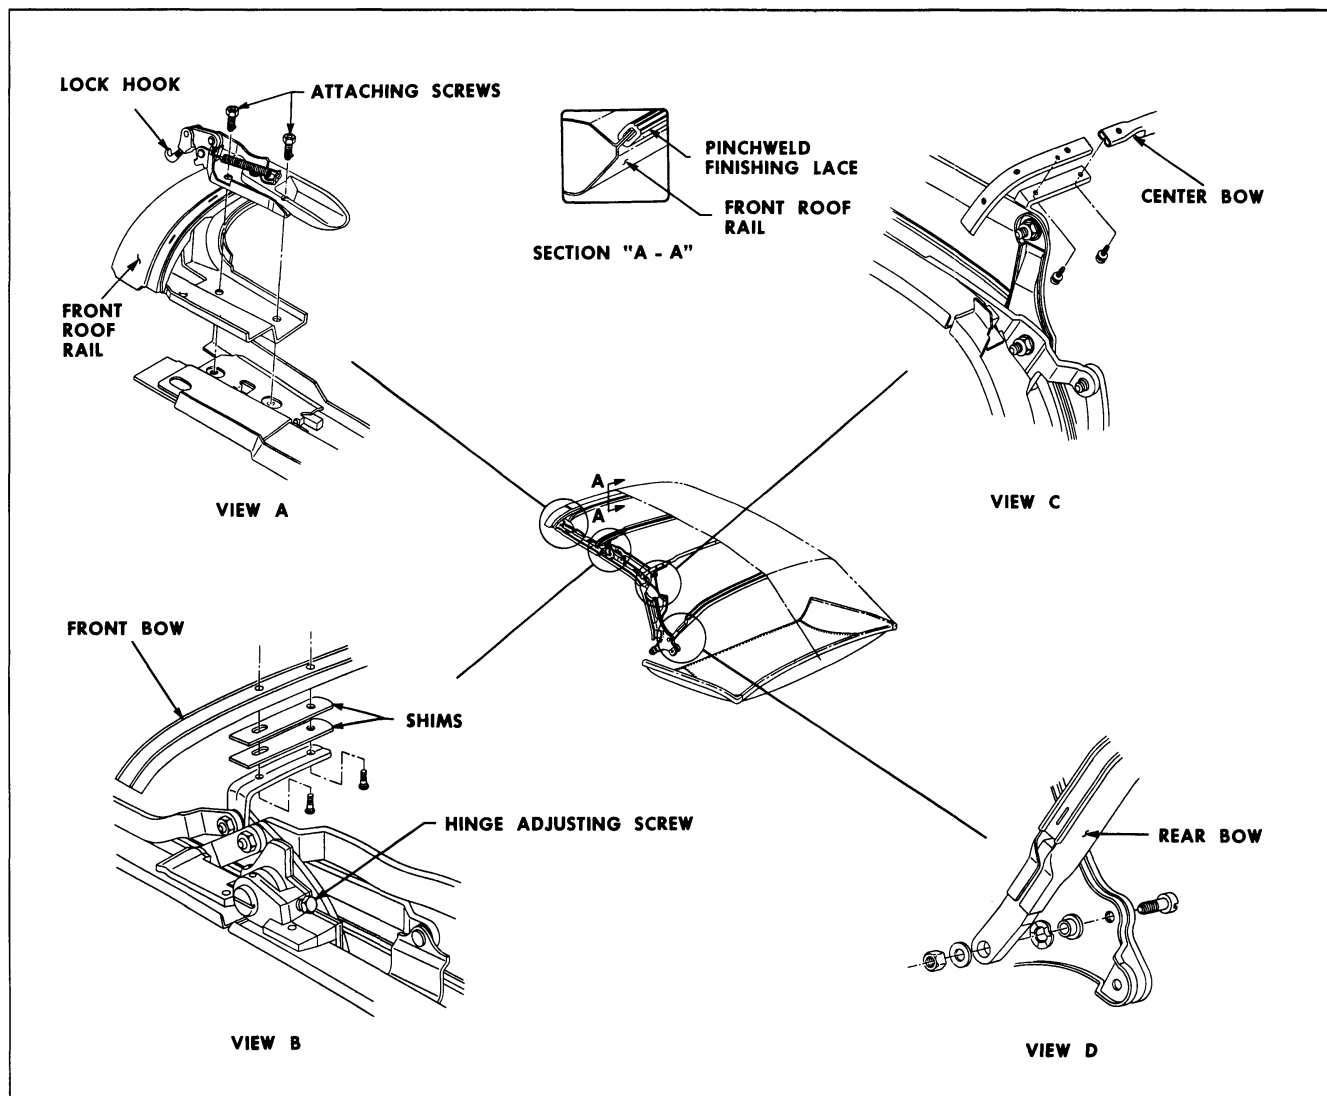
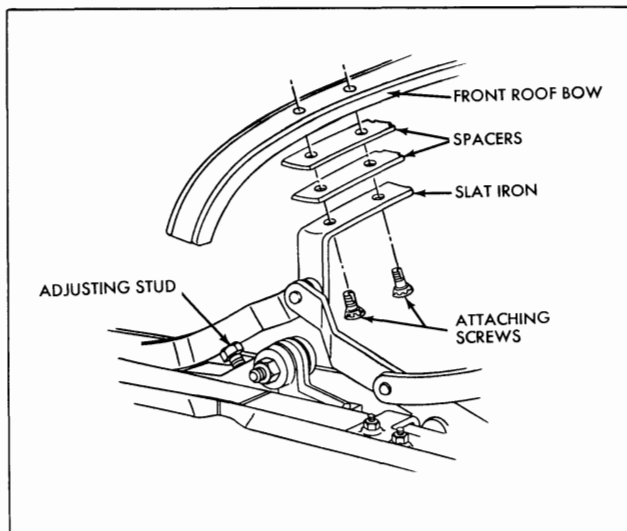

Fig. 21-2 Tempest Folding Top Linkage
Fig. 21-7 Pontiac Hinge Adjusting Stud
2. Loosen corner brace attaching screws and adjust front roof rail fore or aft as required. Repeat on opposite side if necessary (see Fig. 21-2 view A, and 21-3).
2. With top in a half-open position, remove lock attaching screws; then remove lock assembly from front roof rail (see view A, Fig. 21-2).
1. To tighten or increase locking action, turn lock hook clockwise (see view A, Fig. 21-2).
9b. Center side roof rail hinge adjusting stud improperly adjusted.	9b. Adjust stud counterclockwise (Pontiac, Fig. 21-7; Tempest, Fig. 21-2).
10b. Center side roof rail hinge adjusting stud improperly adjusted.	10b. Adjust stud clockwise (Pontiac, Fig. 21-7; Tempest, Fig. 21-2).